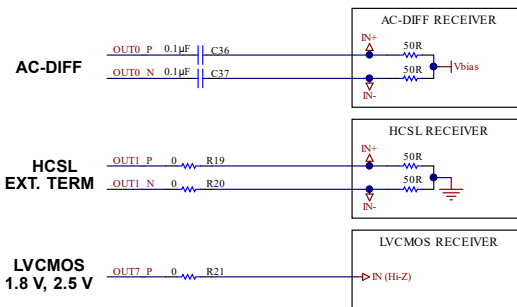

Figure 8-4. LMK05028 Reference Schematic Example
Figure 8-4 shows a reference schematic to help implement the LMK05028 and the peripheral circuitry. Power filtering examples are given for the core supply pins and independent output supply pins. Single-ended LVCMOS, AC-coupled differential, and HCSL clock interfacing examples are shown for the clock input and output pins. An external LVCMOS oscillator drives an AC-coupled voltage divider network as an example to interface the 3.3-V LVCMOS output to meet the input voltage swing specified for the XO or TCXO inputs. The required external capacitors are placed close to the LMK05028 and shown with the recommended values. External pullup and pulldown resistor options at the logic I/O pins set the default input states. The I²C or SPI pins and other logic I/O pins can be connected to a host device (not shown) to program and control the LMK05028 and monitor the status. This example assumes the device starts up from EEPROM mode with an I²C interface (HW_SW_CTRL = 0).
- For a 3.3-V LVCMOS driver, follow the OSC clock interface example in Figure 8-4. Power the OSC from a low-noise LDO regulator or optimize the supply filtering to avoid supply-induced jitter on the XO clock.
- For a 3.3-V LVCMOS driver, follow the OSC clock interface example in Figure 8-4.
- Reference inputs: Follow the LVCMOS or differential clock input interface examples in Figure 8-4 or Clock Input Interfacing and Termination.
- Clock output Interfacing: Follow the single-ended or differential clock output interface examples in Figure 8-4 or Clock Output Interfacing and Termination.
- Power all VDD pins with proper supply decoupling and bypassing connect like shown in Figure 8-4.